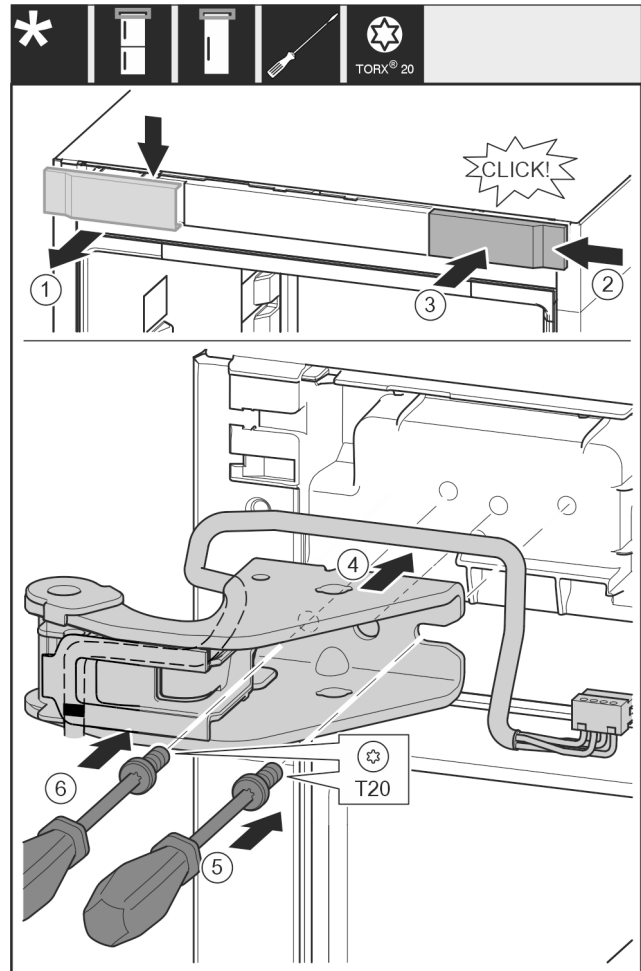

Fig. 32
- Take off the cover from above to the front. *Fig. 32 (1)*
- Rotate the cover 180° and clip onto the other side from the right. *Fig. 32 (2)*
- Latch the cover into place. *Fig. 32 (3)*
- Position the upper bearing bracket. *Fig. 32 (4)*
- Insert the screw with a T20 screwdriver and tighten it. *Fig. 32 (5)*
- Insert the screw with a T20 screwdriver and tighten it. *Fig. 32 (6)*